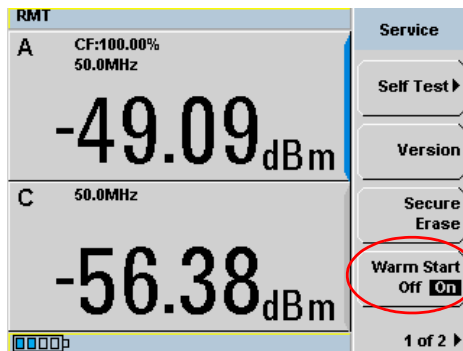

Figure 2-60 Enable/disable warm start feature
- 2 In the **Service** menu, press **Warm Start Off/On** to enable or disable the warm start feature. This feature is set to ON by default (see Figure 2-60).